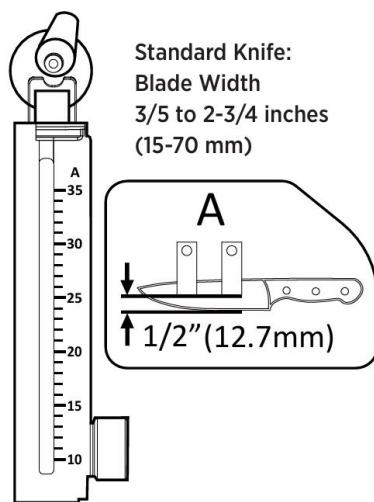

Fig. 6
1. **Standard Knife:** Blades with a width of $\frac{3}{5}$ to $2\frac{3}{4}$ inches (15-70 mm) refer to the **A** mounting position as indicated on the base label. The sharpening angle range is 10° - 35° (See Fig. 6).